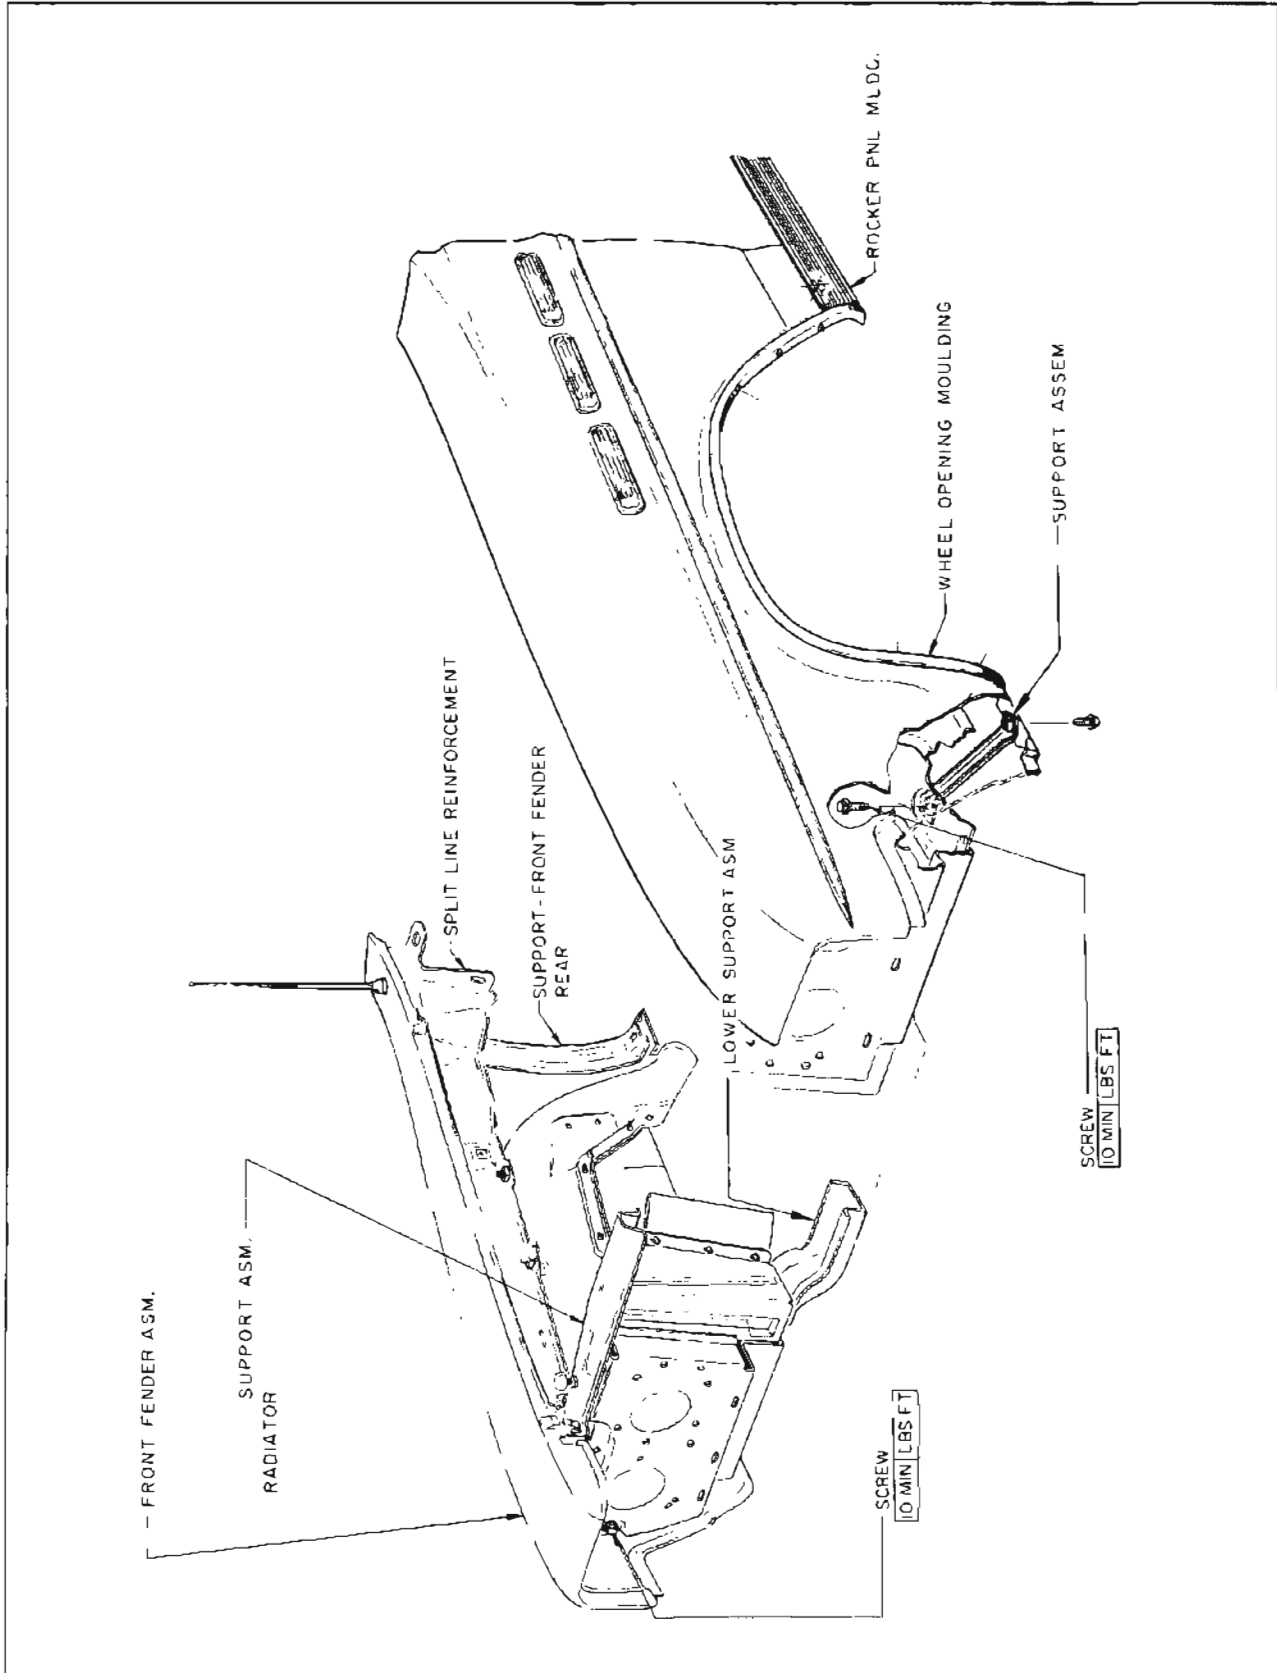

Figure 12-1—Front Fender and Skirt Installation
The front sheet metal parts are attached directly to the wheel houses and the frame to provide rigidity with a minimum of vibration. The radiator assembly is suspended by "U"-shaped, rubber-faced bracket assemblies. The lower brackets attach to the lower radiator cross support. On V-8 models, two upper radiator brackets attach to the radiator upper tie bar; on V-6 models, one bracket attaches to the upper tie bar. The fan shroud attaches to the upper bracket arrangement on both V-8 and V-6 models. See Figures 12-1 through 12-9.
1. Rear Height. Rear hood height is determined by special washers between hinge and hood. Removing or adding washers will shift rear of hood up or down with respect to hinge. (See Figure 12-1).